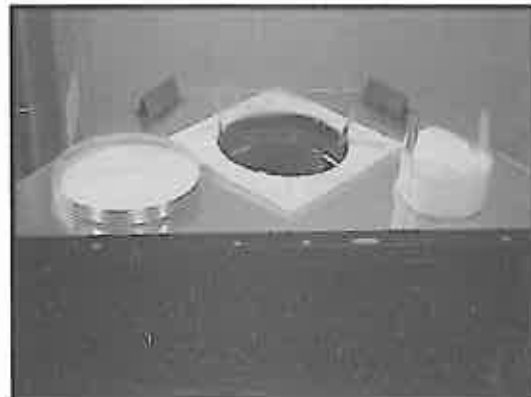

Figure 8 - Vent Cap and Insulation Basket
- d. Remove and discard the vent cap and insulation basket. See Figure 8.